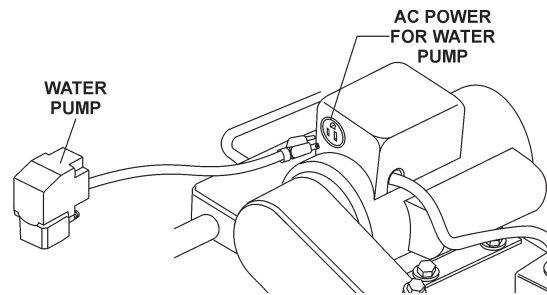

Figure 7. Water Pump Power Connection
5. Insert the water pump **power plug** into the outlet receptacle on the electric motor conduit box as shown in Figure 7.